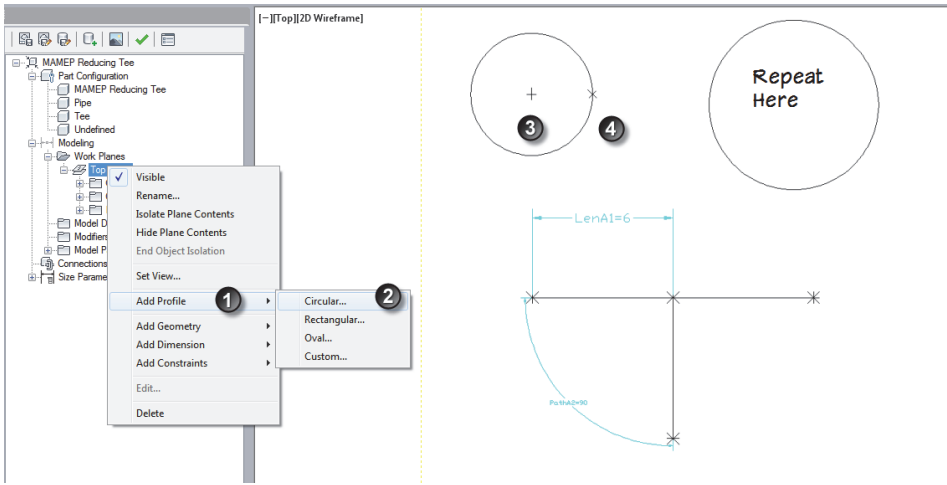

FIGURE 11.10
27. Right-click and choose **Angle dimension** again, select the left side of the left horizontal line and the bottom of the vertical line and click halfway between them to place the dimension (see Figure 11.10).
1. Right-click on the Top Plane, expand out profile and select Circular profile, Above the path, select 2 points to place the circular profile then repeat to the right (see Figure 11.10).